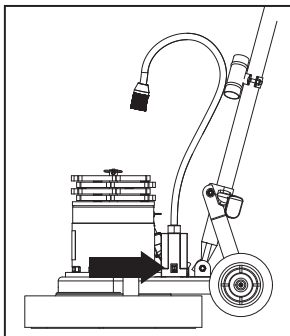

Figure 11
3. Press the "ON" switch at the base of the lamp attached to the frame of the machine. See figure 11.